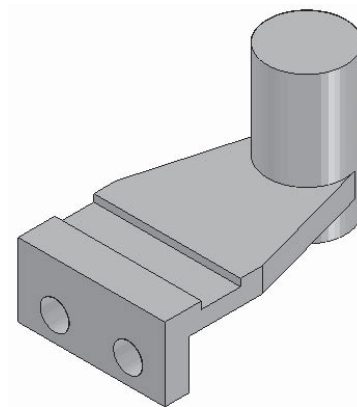

Figure 4-63 Model after creating the cutout
- Create two holes on the left face of the base feature using the **Cutout** tool, as shown in Figure 4-63.
5. Move the cursor to the right of the model and left click to specify the direction of the cutout feature. The model, after creating the cutout feature, is shown in Figure 4-63.